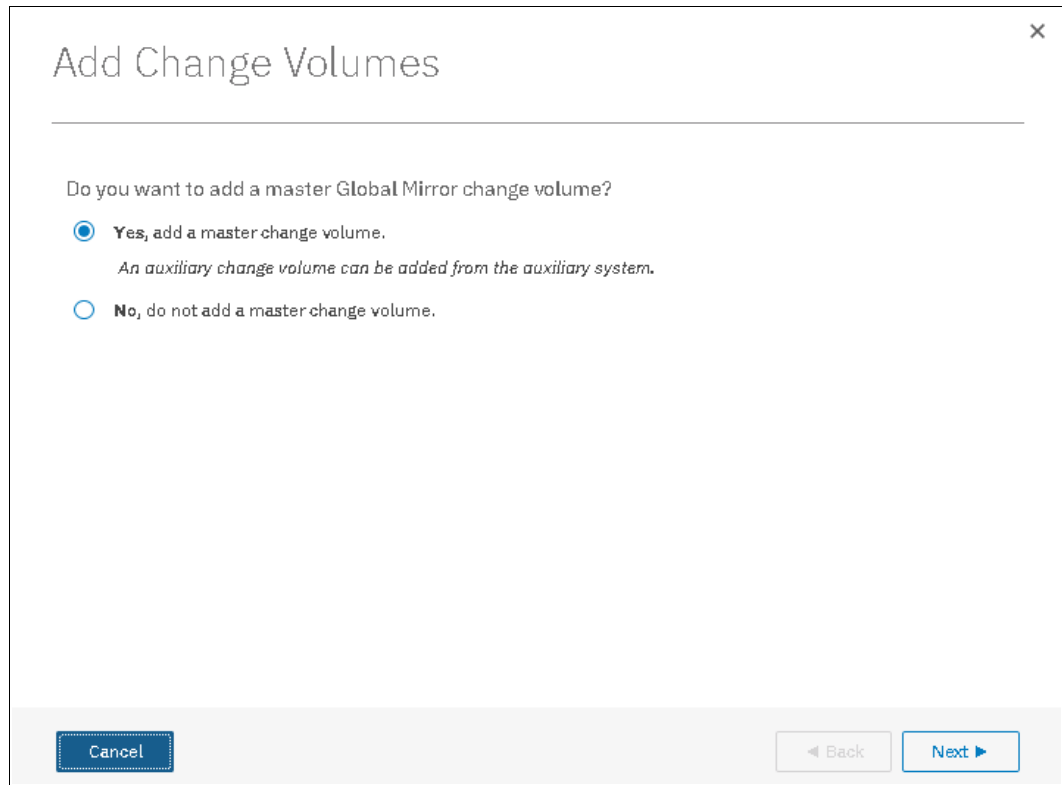

Figure 10-91 Add Change Volume
6. Because **Add Consistency Protection** was selected, a window opens in which you are prompted if you want to add a change volume, as shown in Figure 10-91.